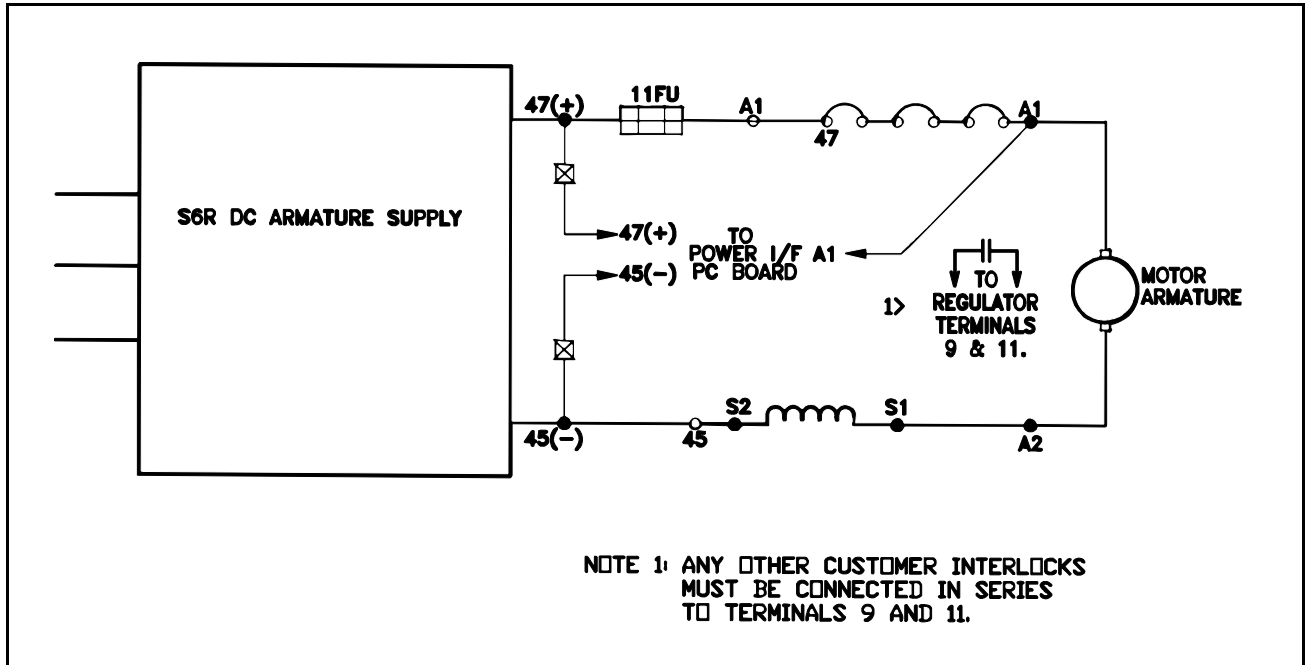

Figure 6 – Inverting Fault Circuit Breaker Connection Diagram
- Step 4. Check and verify all wiring per Figure 6 before applying power. Ensure that wires are not in contact with hot components or sharp metal edges.